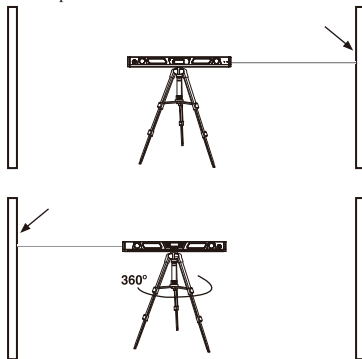

Fig.13
- The laser projects a dot on the targeted surface (see Fig. 13) and the size and shape may vary according to temperature, distance and target surface material. ALWAYS use the center point of the dot for your measurement. Rotate the level on the tripod to align chair rail, pictures, etc. 360° around the space.